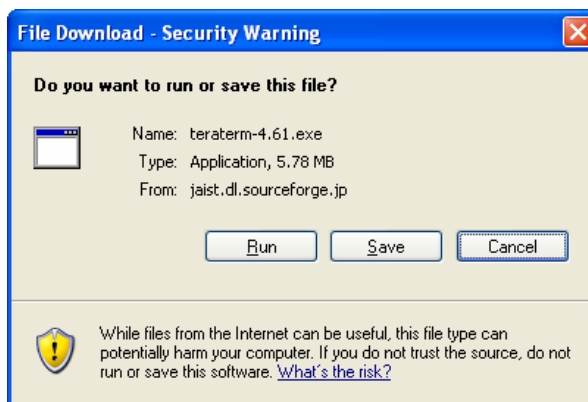

Figure 6-1: File Download Screen
3. Click **Run** on the **File Download** screen (Figure 6-1).